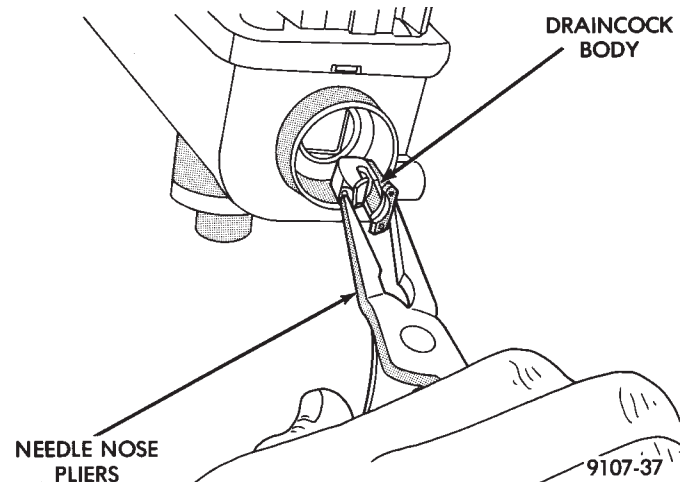

Fig. 2 Removing Draincock Body (Typical)
(2) Remove the draincock body from the radiator tank by squeezing the sides together with a pair of needle nose pliers (Fig. 2). Then, pull the body from the inlet tank.